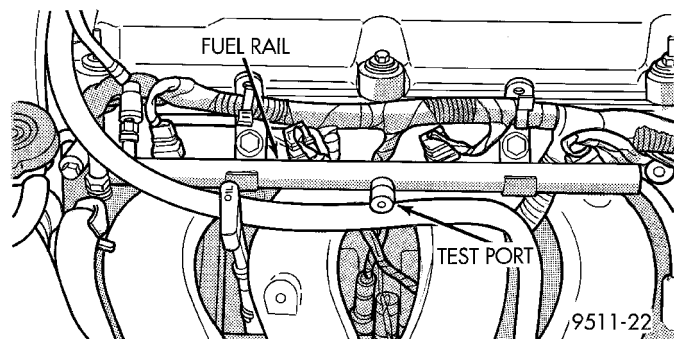

Fig. 19 Fuel Pressure Test Port
(4) Remove the protective cap from the fuel pressure test port on the fuel rail (Fig. 19).